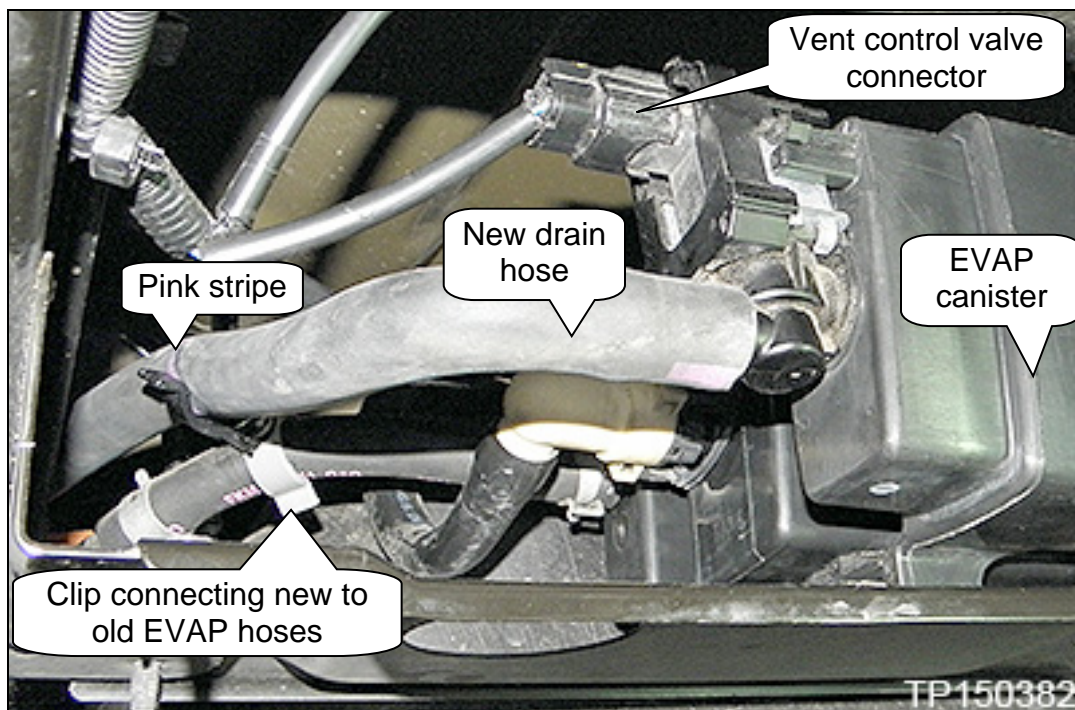

Figure 5
- Harness connectors to vent control valve and pressure sensor (pressure sensor behind new drain hose in Figure 5)
- Two (2) existing EVAP hoses to canister